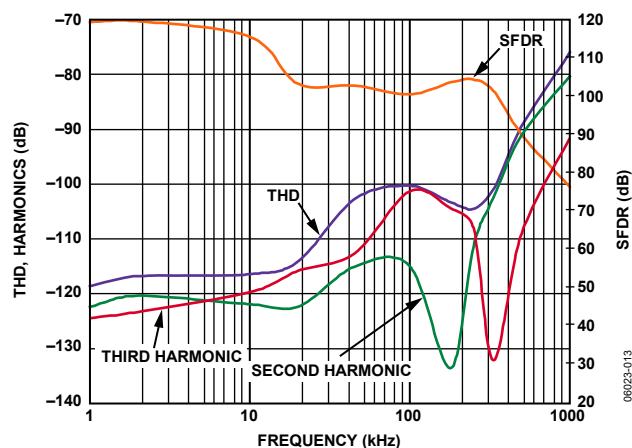

Figure 15. THD, Harmonics, and SFDR vs. Frequency
- The driver needs to have a THD performance suitable to that of the AD7622. Figure 15 gives the THD vs. frequency that the driver should exceed.